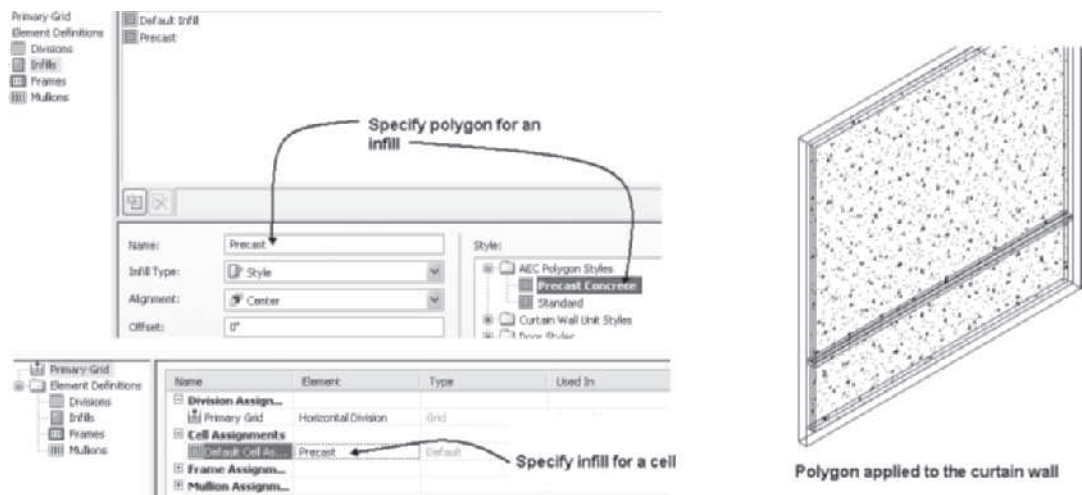

FIGURE 6.50 AEC Polygon assigned as an infill style
3. Select **Infills** in the left pane and select the **New Infill** button. Type a name, such as **Precast**, to name the new infill in the bottom pane. Edit the Infill type to **Style**, and expand the **AEC Polygon Styles** in the Style window. Select the name of an AEC Polygon, such as **Precast Concrete**, as shown in Figure 6.50.
- 5. Click **OK** to dismiss the Curtain Wall Style Properties – style name dialog box. Select **SE Isometric** to view the AEC Polygon assigned to the cells of the curtain wall, as shown at the right in Figure 6.50.